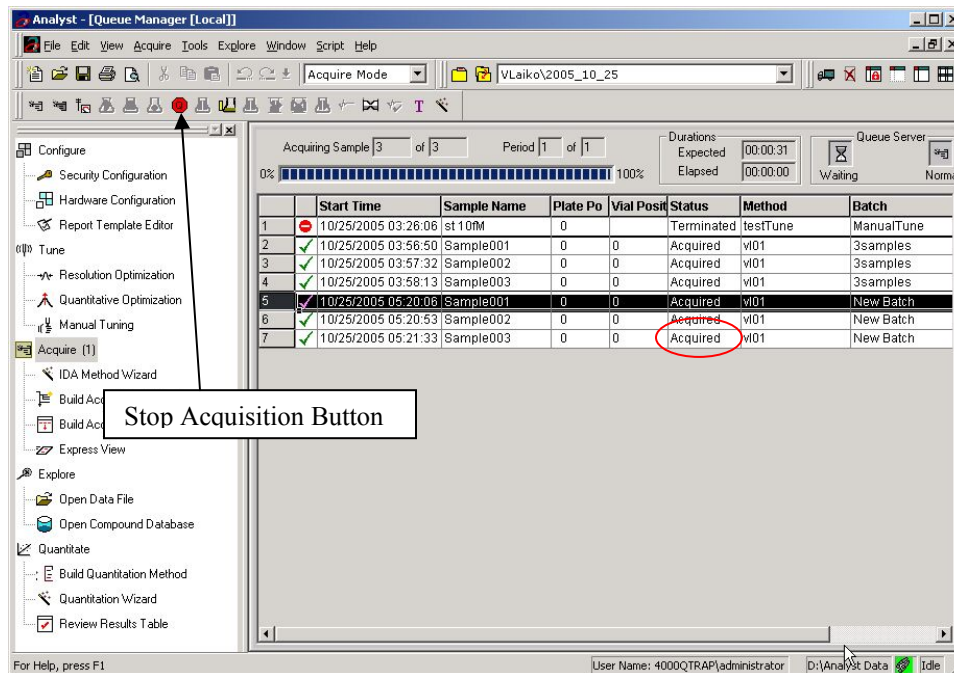

Fig. 7-39. The batch data acquisition for the last sample is completed.
- After the spectrum of the last sample is finished (its status is changed to “Acquired” in Analyst window, see Fig. 7-39), click “Stop” button in Analyst (Fig. 7-39) window.